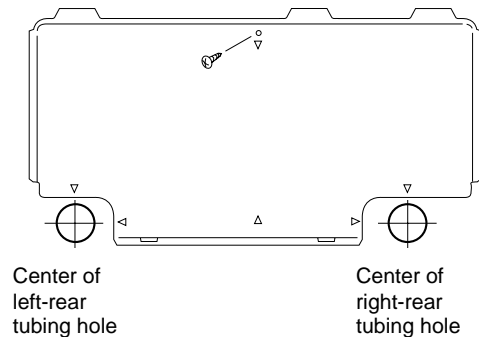

Fig. 7b
- (1) Remove the rear panel from the indoor unit and place it on the wall at the location selected. Make sure the unit is horizontal, using a carpenter's level or tape measure to measure down from the ceiling.
- (2) Determine which side of the unit you should make the hole. (Fig. 7b)
- (3) Before making a hole, check carefully that no studs or pipes are directly run behind the spot to be cut.